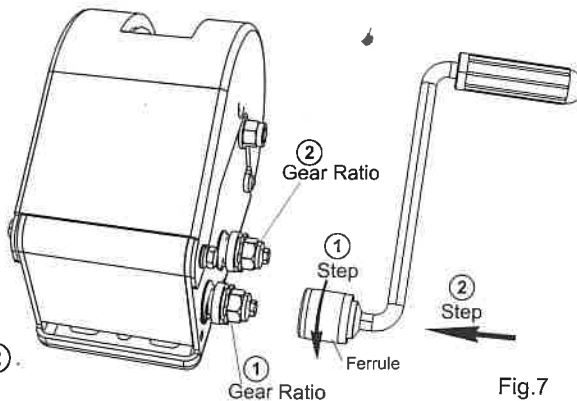

Fig.7
Push the Handle into your selected Driving Shaft ① or ②. Refer Fig.7.